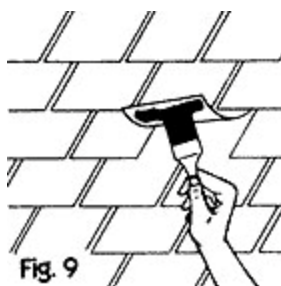

Fig. 9
2. If the shingle does not need replacing, simply raise the damaged or torn shingle and apply an ample amount of asphalt cement to the underside (Figure 9). Now press the shingle firmly into place and nail it down with broad-headed, galvanized roofing nails. (Always remember to apply asphalt cement to the nail heads.)